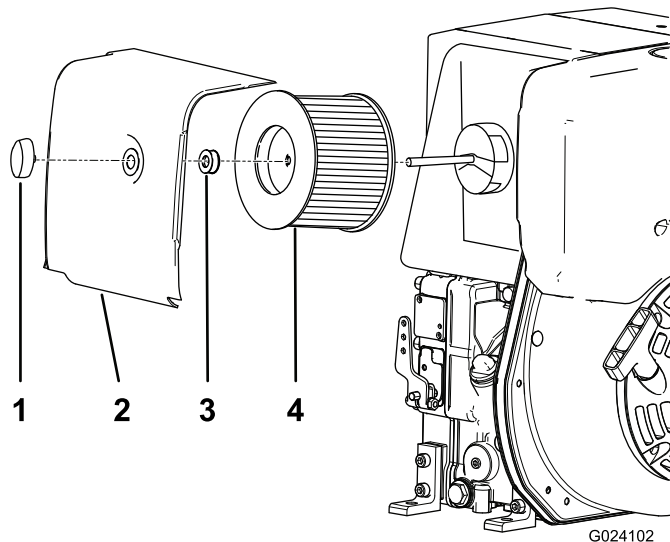

Figure 24
2. Unscrew the cover nut and remove the cover (Figure 24).
3. Unscrew the filter nut and remove the element (Figure 24).